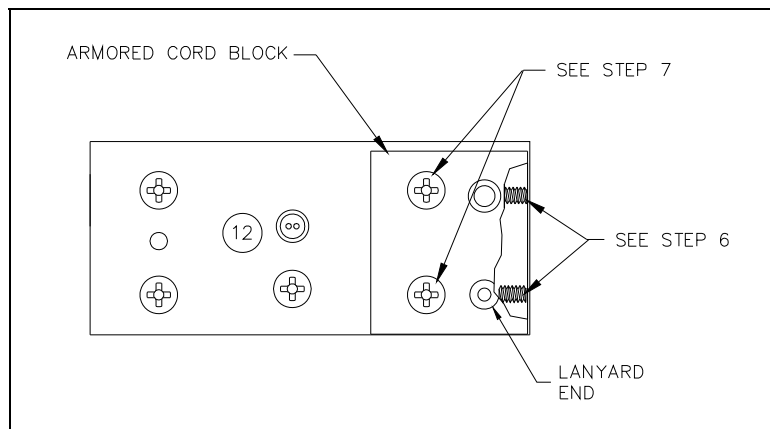

Figure 2.
6. Loosen the set screws that secure the armored cord and the armored cord lanyard. Pull the lanyard end from the armored cord block. See Figure 2.
7. Remove the two screws securing the armored cord block. See Figure 2.